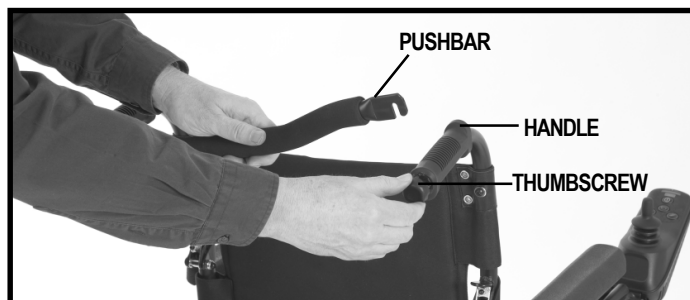

Figure 14. Push Bar Installation
3. Install the push bar by attaching the push bar to both seat cane handles and tightening both thumbscrews. See figure 14.